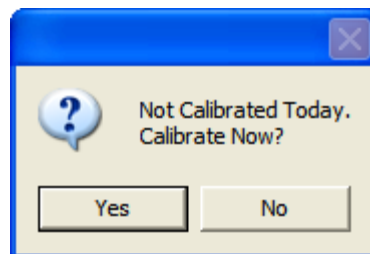
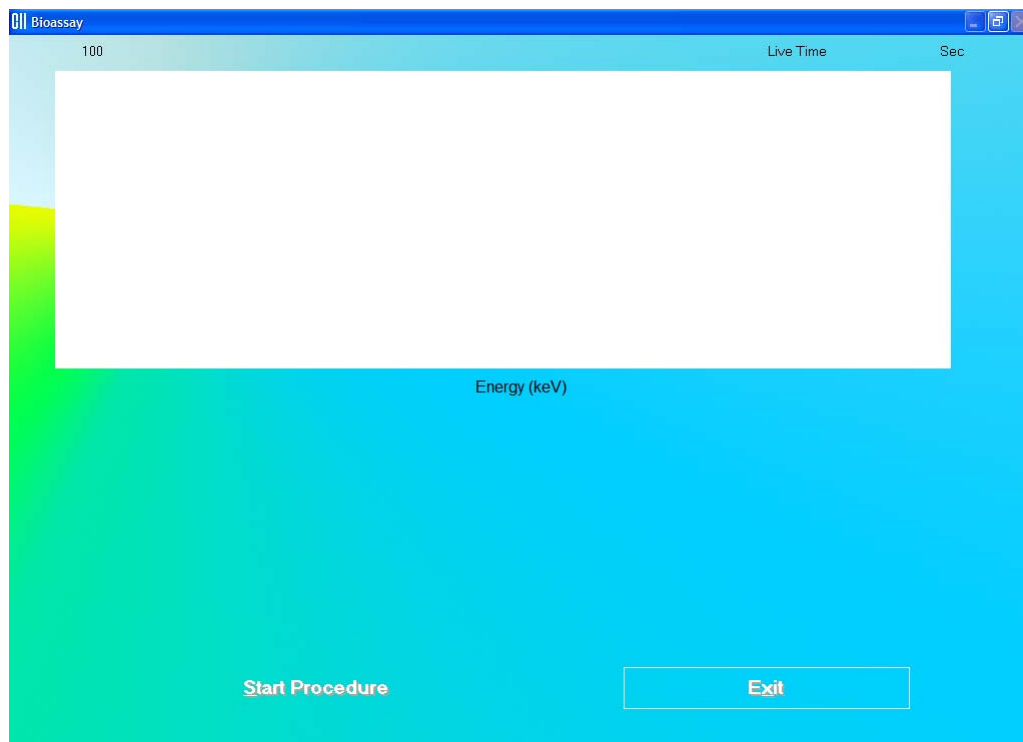

Figure 8-4
Figure 8-5
- iv. Click the **Next** button or press *Alt+N*. The screen appears as shown in Figure 8-5.
Note: If calibration has not been performed, you will be prompted with the screen as shown in Figure 8-4. After the calibration is complete, the program will return to the screen shown in Figure 8-5.
To abort the procedure, click the button or press the Y key. Figure 8-5 will re-appear. Click the button to restart the measurement or the button to return to the Bioassay Setup screen (Figure 8-2).